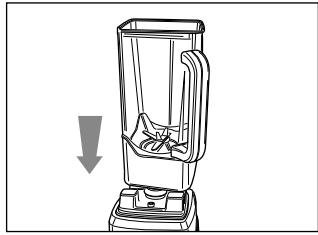
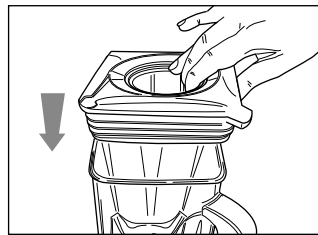

Fig. 2
Fig. 3
- Position the goblet (C) on motor body (E) properly and press it slightly downwards until it locks in place (Fig. 2).
- Cut fruit and vegetable into small pieces and place them into the goblet (C) adding water or milk. The liquid ingredients must not exceed 1200 ml.
- Position the lid (B) on the goblet (C) and press it slightly downwards until it locks in place (Fig. 3).